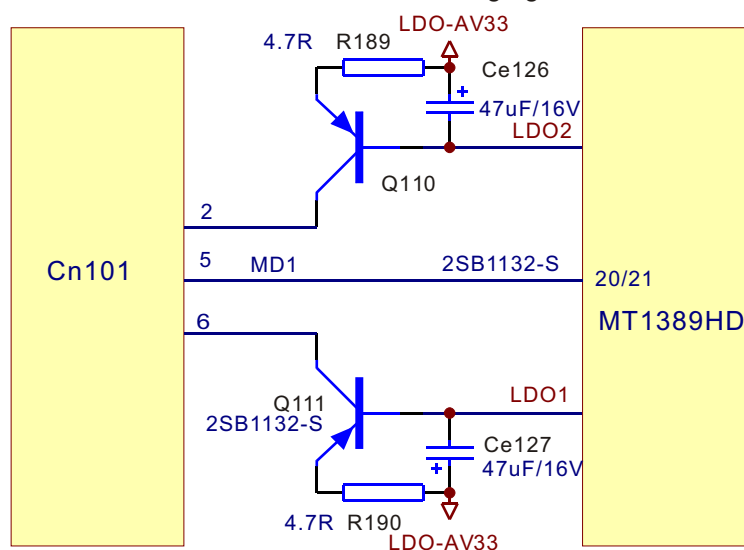

Figure 3.2.3.1 Laser power control circuit diagram
1. Laser power control circuit is shown as in the following figure 3.2.3.1: